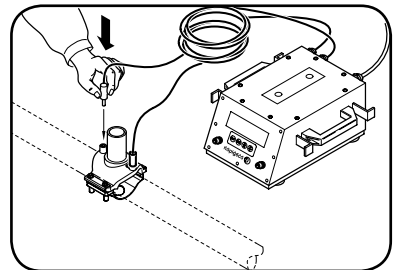

FIG.3
- 5 Connect the two cables of the electrofusion machine to the connectors of the branch saddle (see fig.3). Scan the bar code (see fig.6) with the bar code scanner or enter the welding parameters manually. **ALWAYS CHECK THE WELDING PARAMETERS.**